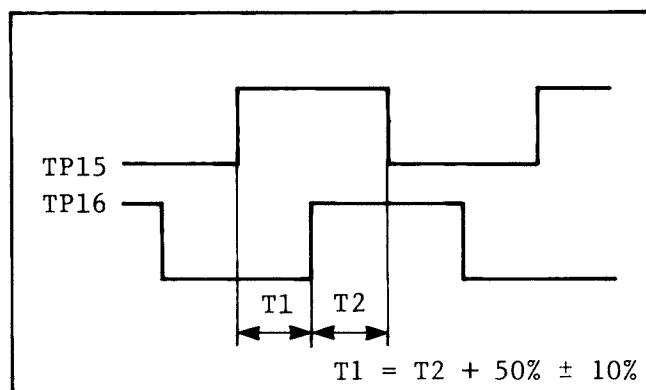

Fig. 2-3-2. REEL ENCODER
4. Adjust VR6 (PHOTO 2 DUTY) and VR7 (PHOTO 1 DUTY) as shown in Fig. 2-3-2.